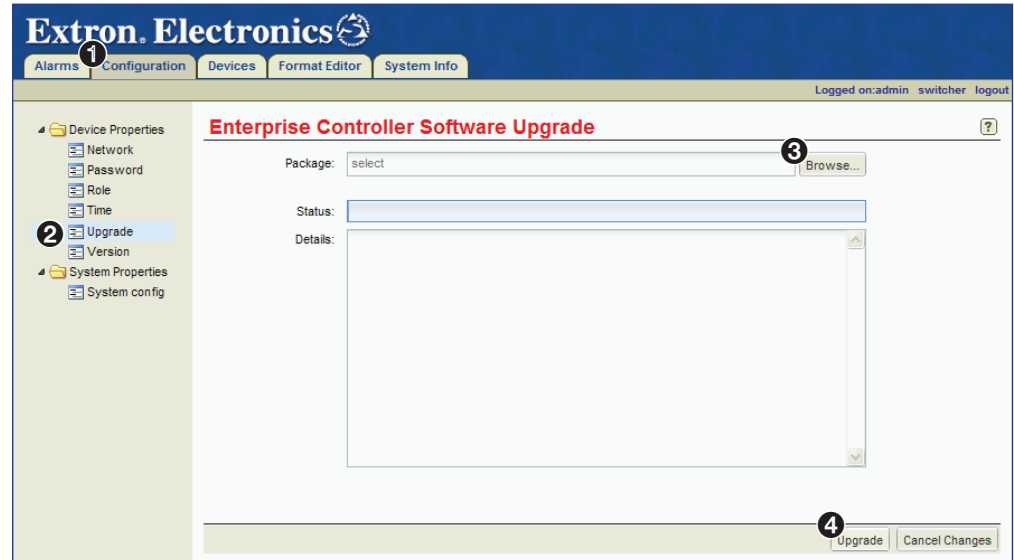

Figure 165. Configuration Page — Single Enterprise Controller
1. Click the **Configuration** tab (see figure 165, ❶).